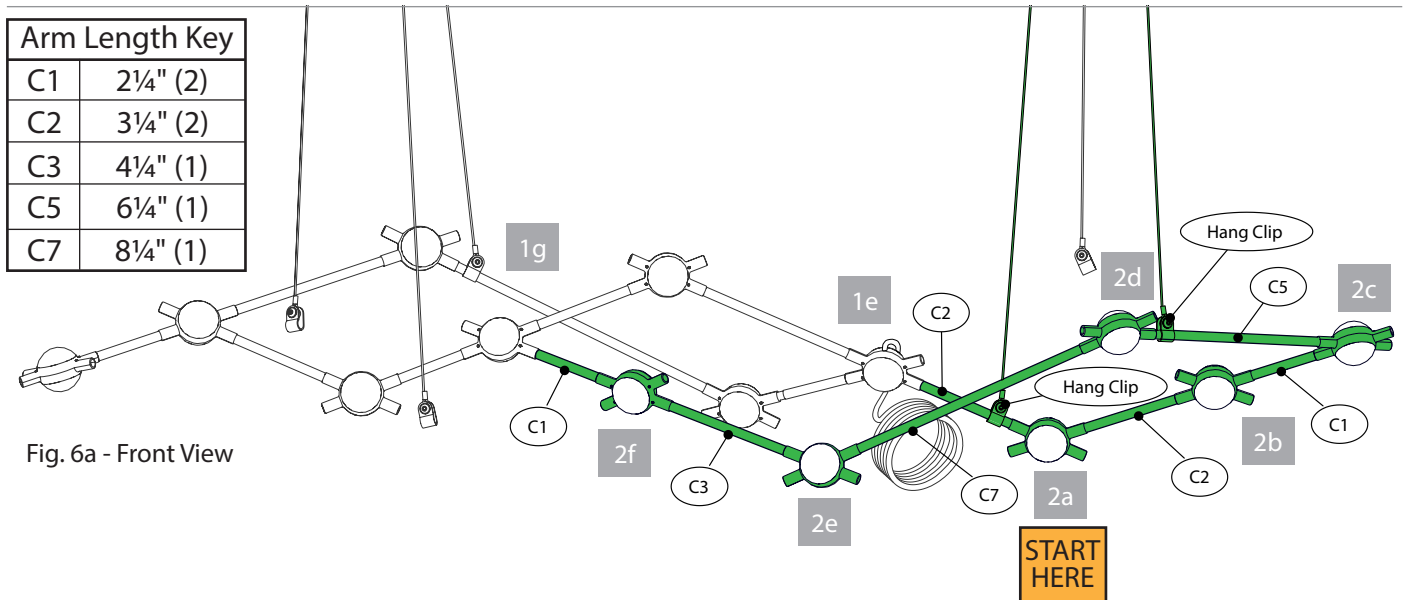

Fig. 6a - Front View
- Continue by connecting Arms and 45° Hubs following the order and pattern in Figs. 6a/6b and complete this section by connecting the remaining C1 Arm to the 45° Hub (1g) from Section 1.